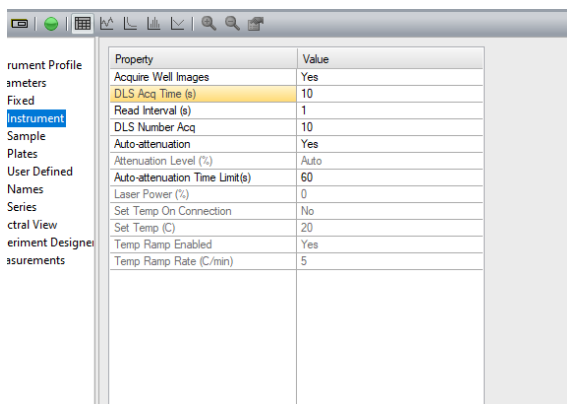

Fig 4 Acquisition time change window.
11. Then, go to Parameters → Instrument → Change DLS Acquisition Time to 10s and DLS Number Acquisition 10 (can do 5 and 5 for time sensitive data if less worried about data quality) (Fig 4)